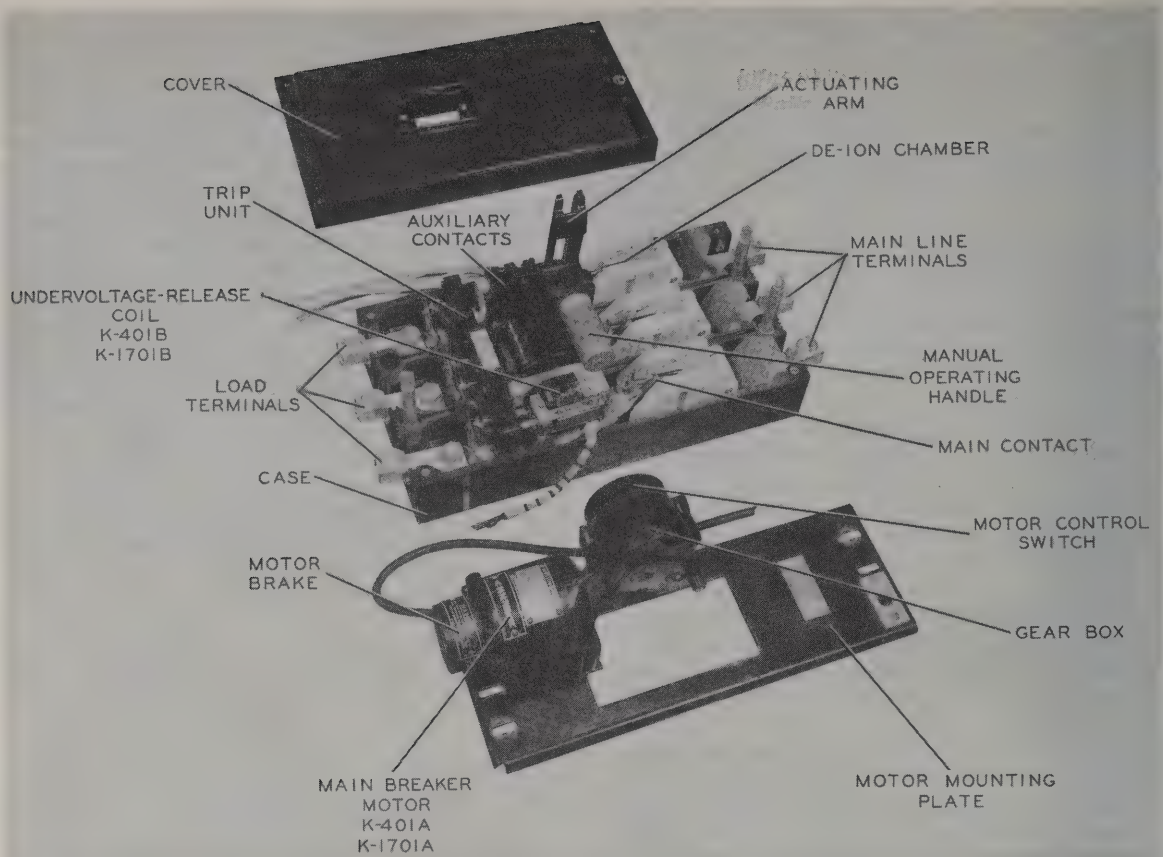

Figure 135. Main Breaker, K-401 or K-1701, Covers Removed.
- (a) Type AB "De-ion" circuit breakers (fig. 135) are completely enclosed devices equipped with "De-ion" arc chambers and interchangeable trip units.